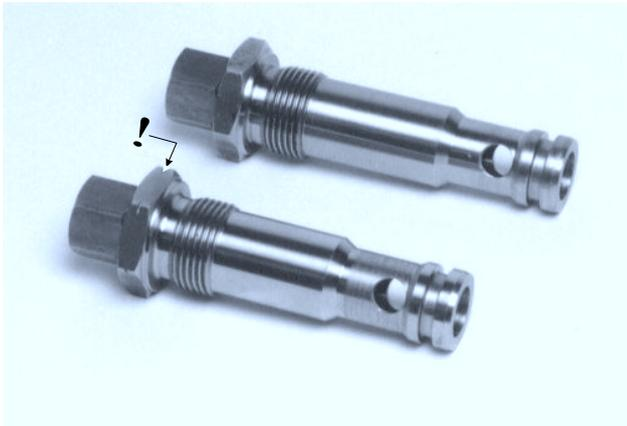

Fig.54: Oil pressure regulators
1. The lubricating oil pressure regulator (not equipped with a groove in the hexagon nut) (see Figure 54, Page 31) is fitted in the left-hand side of the pump and can be taken out with the help of a ring spanner or socket spanner 41, provided that the oil suction filter has been removed.